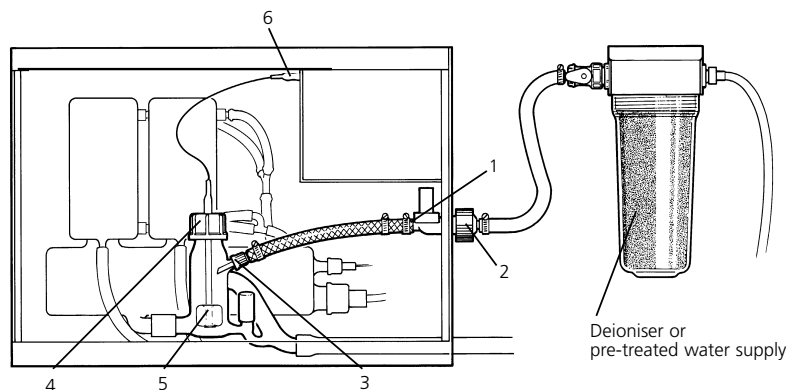

Fig 13 Conversion to deionised or pre-treated water supply
- 8 Take the 220mm length of reinforced plastic tubing from the WCK/N kit. Connect the free-end to the nozzle of the solenoid valve, item 1, fig 13. Secure with metal hose clip. Fit the other end of the tubing to the side arm of the Level Control WL48, item 3, using the screwthread connector.
- 10 Take the plastic screwcap, hose connector and rubber ring from the WCK/N kit. Fit to the deionised water inlet, item 2, fig. 13, having first removed the red protective cap.
- 11 Unscrew the screwcap, item 4, fig. 13, from the Level Control WL48. Remove the glass funnel WF48 and the rubber ring which are no longer required.
- 12 Take the glass float, guide tube and washer assembly, item 5, and pass the electric lead and plug through the hole in the screwcap. Carefully push the washer into the cap.
- 14 Remove the dummy shorting plug from the socket item, 6, fig. 13, and fit the plug from the Float Switch.
- 16 Connect the hose connector, item 2, of the deionised water inlet to the outlet of the deioniser or pre-treated water supply. Note the tubing selected should have a safe working pressure of at least equal to the pressure of the water supply and should be adequately secured with hose clips.